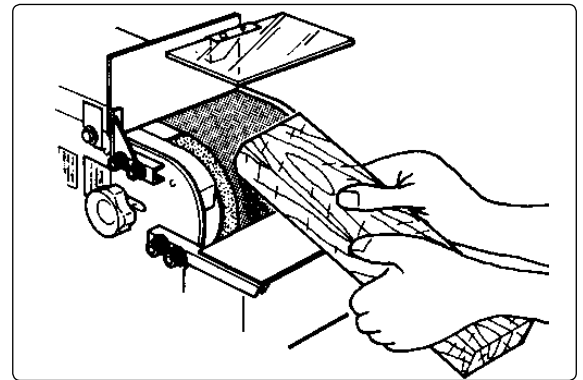

fig 11
- 7.7. To sand work piece on the roller end of machine, position face guard for maximum protection and hold the workpiece firmly by hand whilst using the working table for support (fig 11).